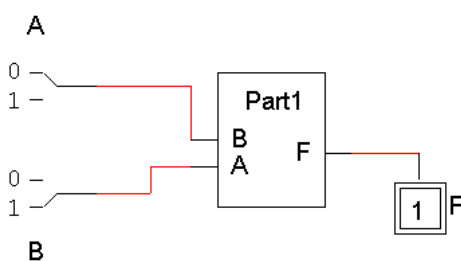

Figure 10-19
- You can now use this subcircuit as a device in your circuits as shown in figure 10-19.